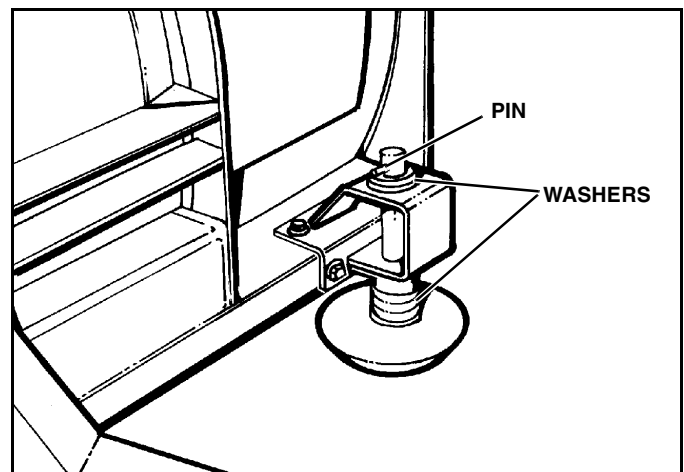

Figure 2-8
14. Adjust each Disk Shoe Assembly by removing Disk Shoe Mounting Pin and adding or subtracting Washers on the top or bottom of the Disk Shoe Mounting Bracket as required according to measurements taken in step #11 (See Figure 2-8)